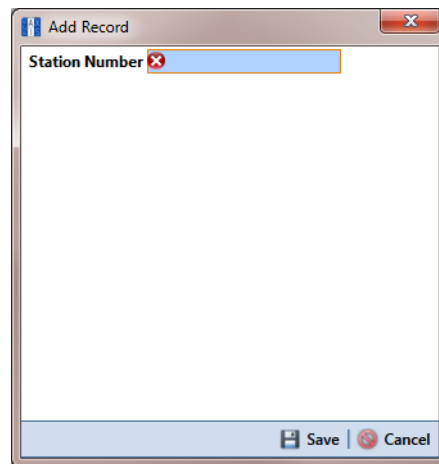

Figure 7-72. Add Record
- a Click **+ Add** to open the *Add Record* dialog box (Figure 7-72).